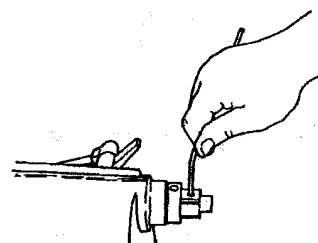
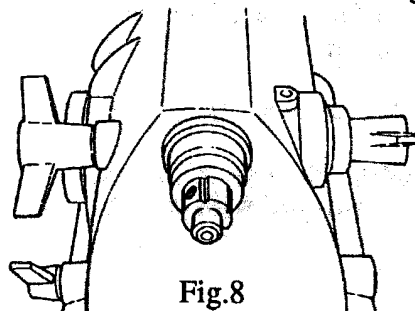

Fig.7
Fig.8
1. Install the drive hub (36) on the Mark V spindle shaft fully seated on the flat of the spindle (shown in Fig.7). Put a hub notch in the "12 o'clock" position, as in Fig.8.